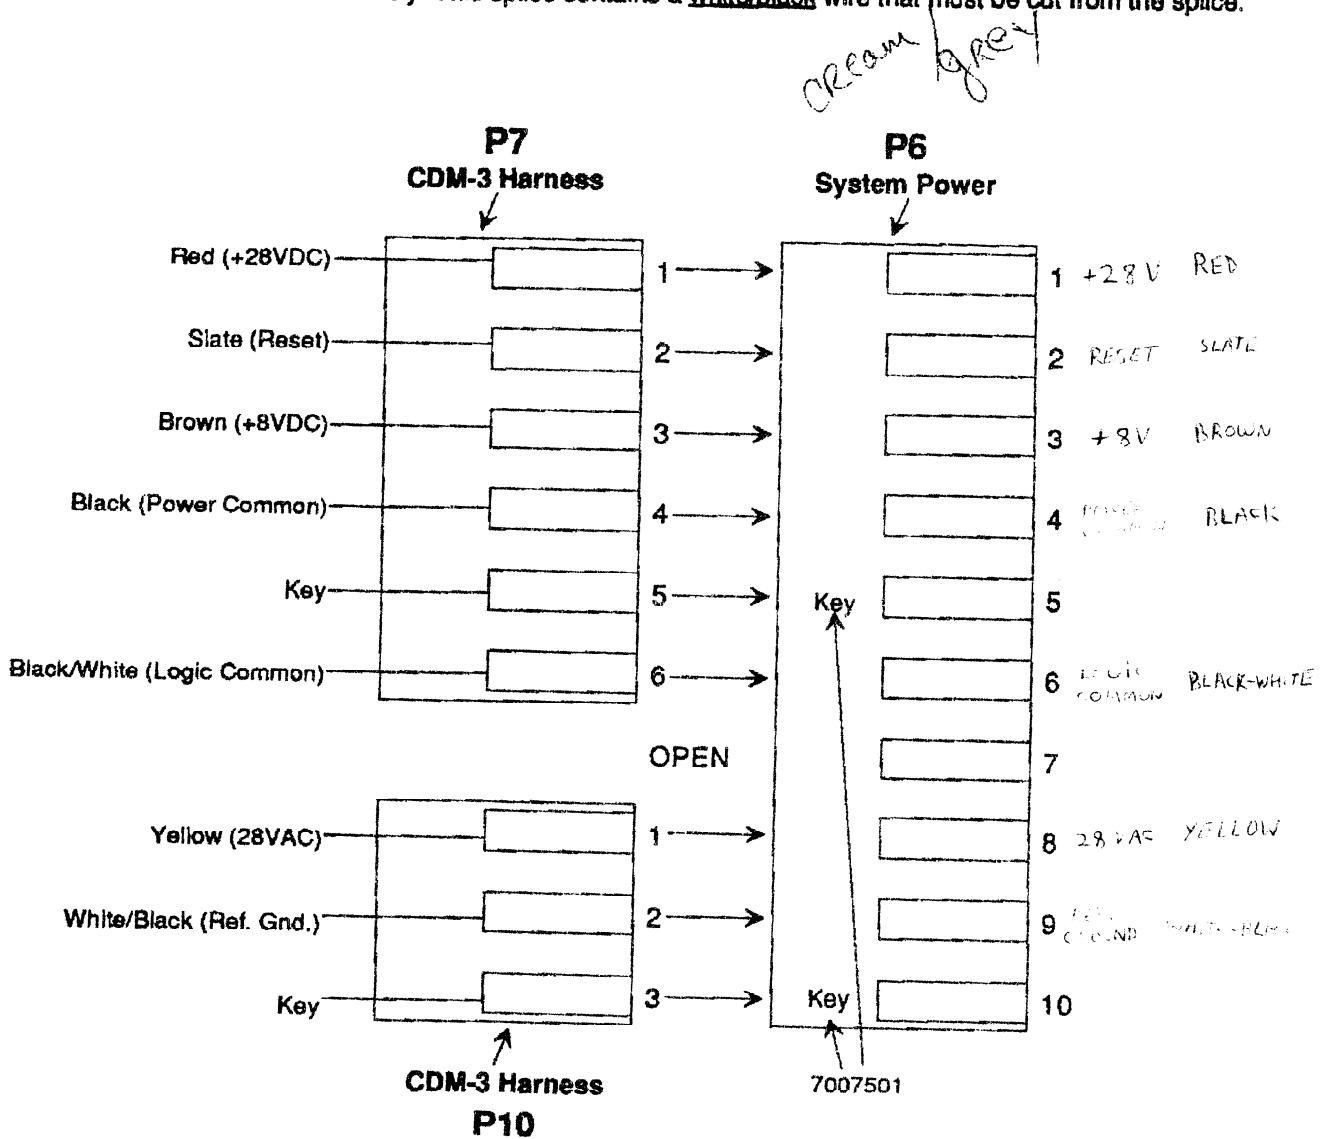

Figure 6
The kit contains (1) 10-position connector housing and (2) keying plugs that will mate with P6 system power. To prevent damage to the mech control and the CDM-12 player circuit board assemblies, remove wires from existing connectors P7 and P10 and assemble them into new 10-position housing as shown in *Figure 6*.